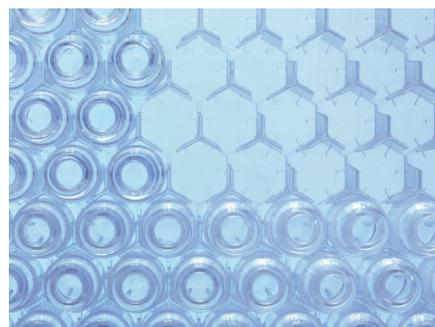

Figure 2: No glass-to-glass contact in Ompi EZ-fill tray packaging.
- 2) **Nest & Tub:** standard nest & tub configuration as the PFS solution one, preventing glass-to-glass contact (Figure 2).